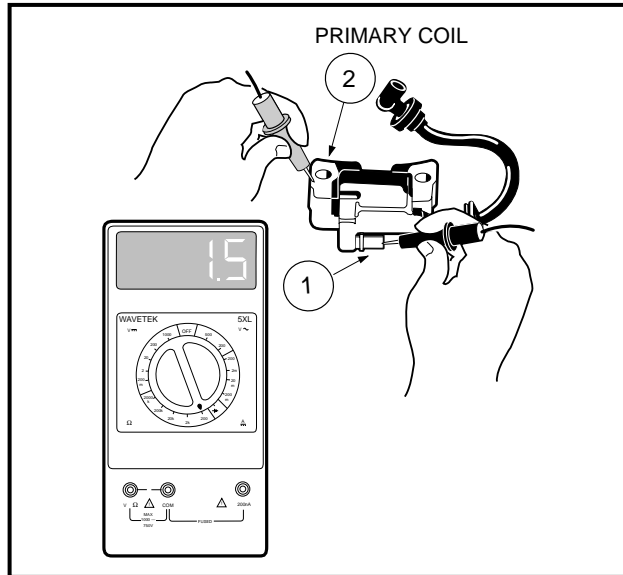

Figure 11-41 Test Ignition Primary Coil
- 2.2. If the resistance is not between 0.6 - 1.7 Ω (ohms), remove the coil from the engine. **See Ignition Coil Removal, Section 12, Page 12-25**. Retest with a multimeter set to 200 Ω (ohms). Place the black (–) probe of the meter into the terminal on the coil (1), and place the red (+) probe on the core (2) (**Figure 11-41, Page 11-36**). If the resistance is still not between 0.6 - 1.7 Ω (ohms), replace the coil.